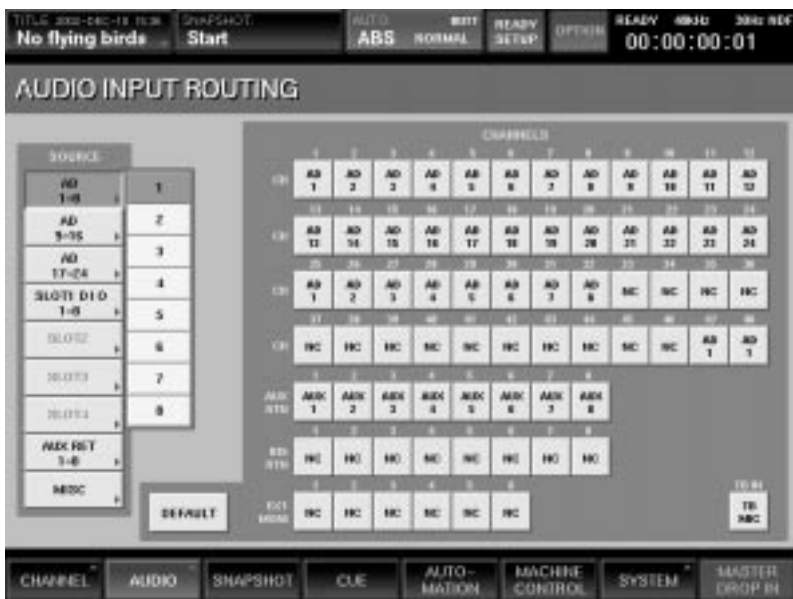

Figure 17
- To mult that signal to channel 47 as well, simply press the Channel 47 button. The signal connected to the first head amp will now appear on both input channels 47 and 48. (See Figure 17)